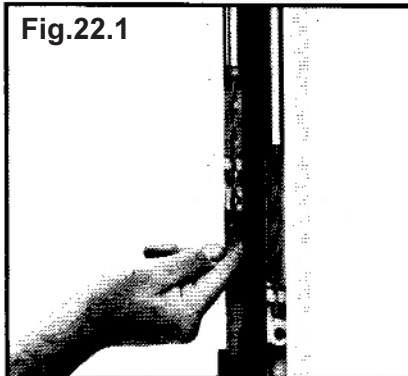

Fig.22.1
- If spiral rod is more than 2" out of the sash, push rod in with light finger pressure. Allow rod to rotate freely. (Fig.22.1)